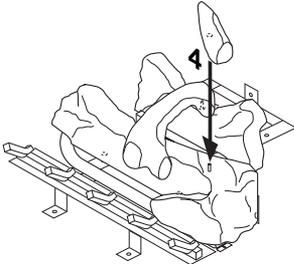

Figure 44 - Installing Log No. 4
4. Place log #4 (right log) onto pin on right side of front log as shown in Figure 44, page 26.